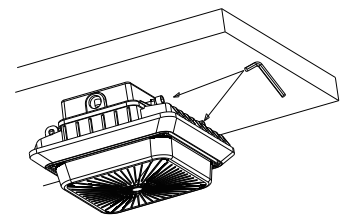

Figure 2-8
8. Tighten the two screws using an Allen key to secure the fixture. Fig. 2-8